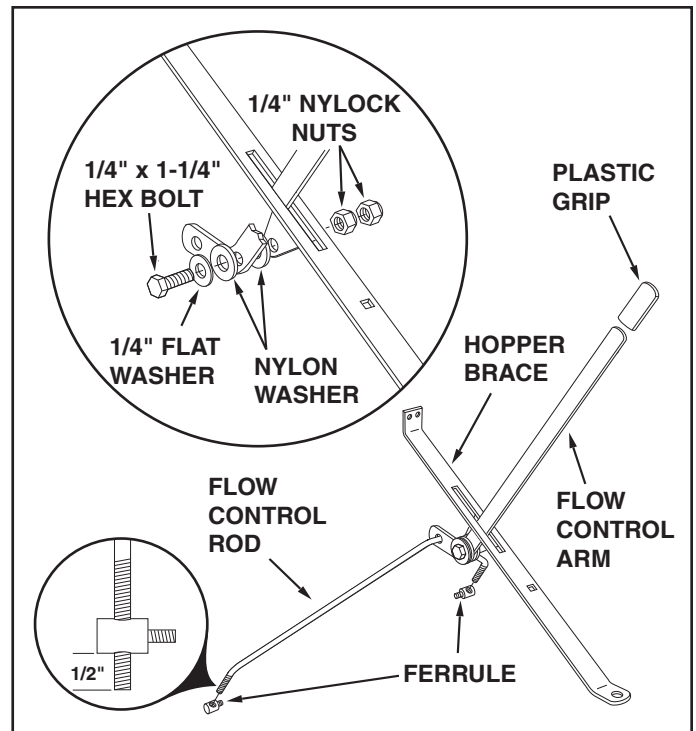

FIGURE 2
3. Assemble the plastic grip onto the end of the flow control arm as shown in figure 2.
4. Insert the flow control arm through the slot in the hopper brace. Place a nylon washer on each side of the arm and attach it to the brace's welded bracket using a 1/4" x 1-1/4" hex bolt, a 1/4" flat washer and two 1/4" nylock nuts as shown in figure 2. **Tighten** the first nylock nut until there is noticeable resistance when moving the flow control arm, then **tighten** the second nylock nut.
5. Place the flow control rod through the hole at the end of the flow control arm. Assemble the two ferrules onto the threaded ends of the rod so that approximately 1/2" of the rod extends through the ferrules. See figure 2.